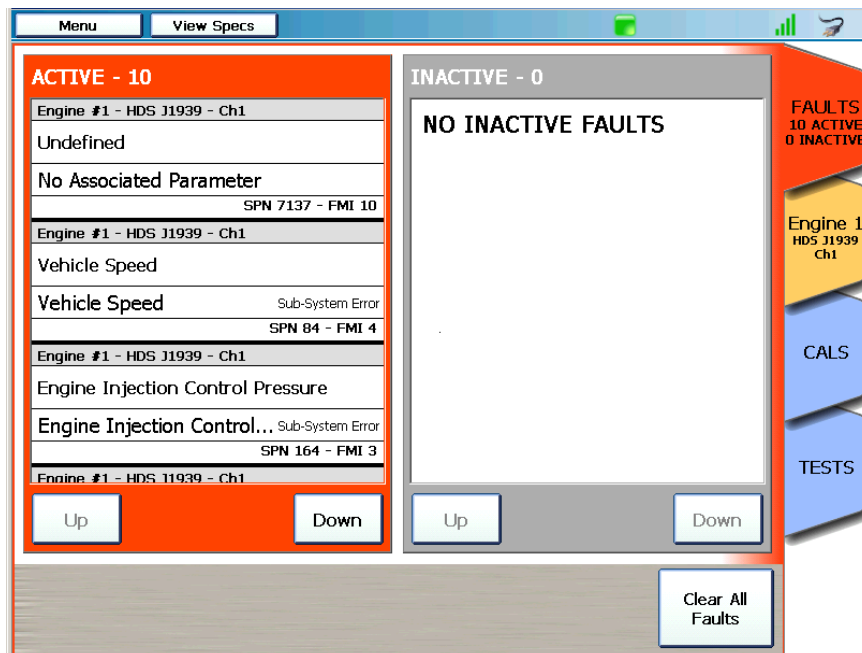

Figure 4.1 Diagnostics Menu
- 1 From the Diagnostics Menu (Figure 4.1), select the **PARAMETERS** tab.